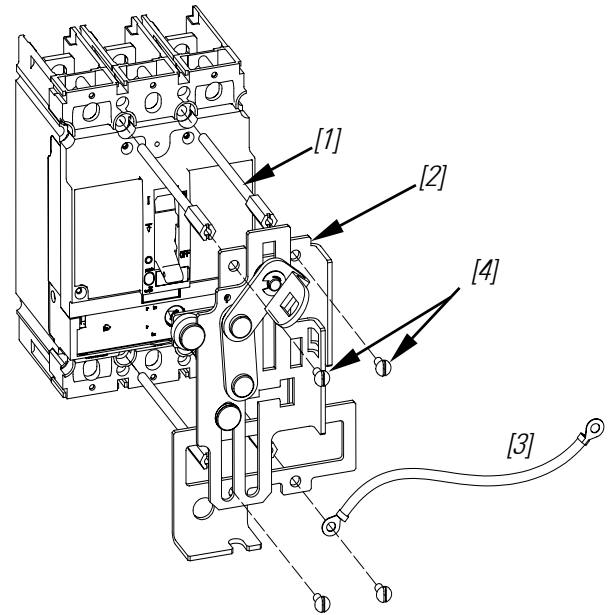

Figure 4. Mounting the FENRM2 assembly onto the breaker
- a. Place the base-crank assembly [2] on the breaker, as illustrated in Figure 4.